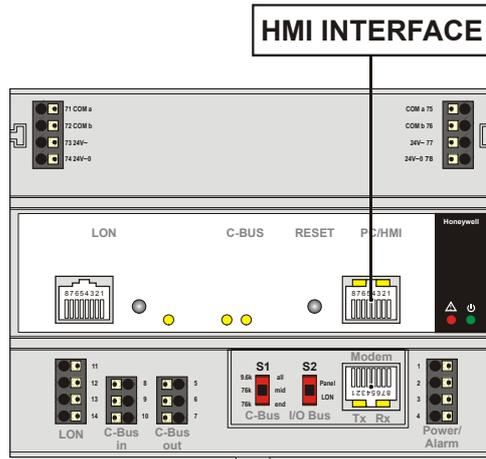

Fig. 7. Excel 800 Controller Module and MMI connection.
- The Excel 800 Controller Module (XCL8010A) features an RJ45 serial connection on the front (see Fig. 7) for connection (using the XW882 cable; alternately: the XW582 together with the XW586) of Human-Machine-Interfaces (HMIs).